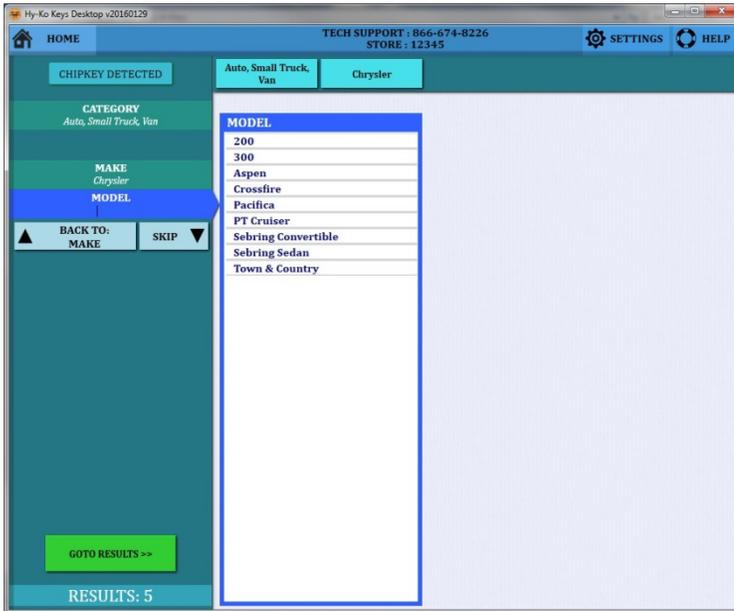

fig. 81
- Choose the Model by clicking on it from the list or by typing it in the 'MODEL' box on the left (see fig. 81).